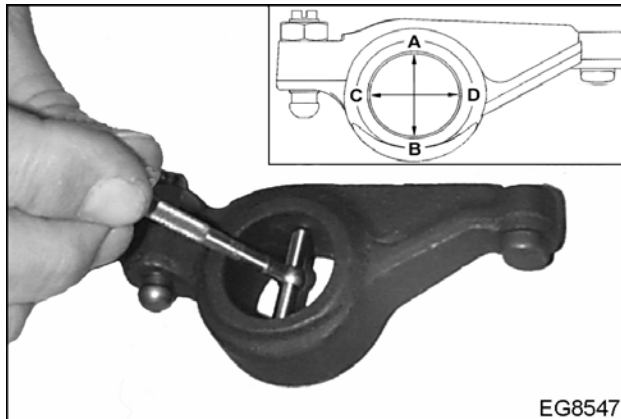

Figure 176 Measure valve lever bore
3. Measure valve lever bore diameter at two locations with Telescoping Gauge and Outside Micrometer (page 132). Measure diameter at A-B and C-D (Figure 176). If difference between diameters is greater than or equal to 0.025 mm (0.001 in), replace valve lever.